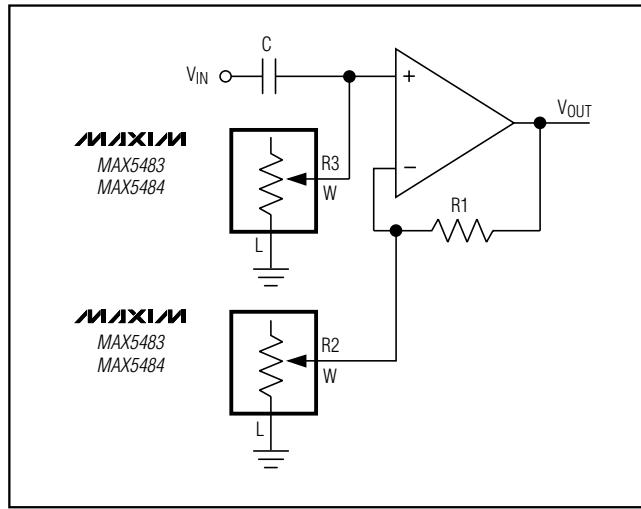

Figure 12. Programmable Filter
Figure 12 shows the configuration for a 1st-order programmable filter using two variable resistors. Adjust R2 for the gain and adjust R3 for the cutoff frequency. Use the following equations to estimate the gain (G) and the 3dB cutoff frequency (fC):